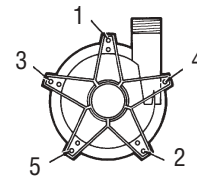

Figure 2
6. Install the wet end assembly by grasping the discharge with your right hand the "fins" (marked 3 and 5 in figure 2) with your left hand. Carefully align the wet end with the motor adapter and allow the magnets to pull it into place.
Align mounting holes and install 5 Phillips pan head screws (item 7) and hex nuts (item 9). Hand tighten screws to 30 in-lbs. (3.34 N-m) of torque using the pattern shown in figure 2.
- Install the two-piece shipping plug into the suction of the housing. Remove the 5 Phillips pan head screws and hex nuts (items 7 and 9).
- Securely clamp or hold motor in place. Remove wet end by gripping the discharge with your right hand while gripping the two fins marked 3 and 5 in figure 2. With a tight grip, pull the wet end straight out of the motor adapter using one quick motion.
- To disassemble wet end, remove the 4 Phillips head screws (item 13).
- Remove impeller housing (item 1) from barrier (item 3), and pull out the impeller assembly (item 2). Remove o-ring (item 6). To remove drive magnet assembly (item 5), insert a 3/16" hex wrench in the access hole on motor adapter top and loosen the 2 set screws (item 5A). Remove the drive assembly from the motor shaft.